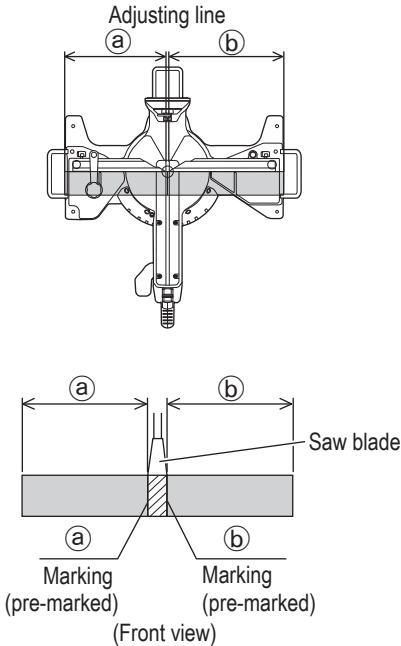

Fig. 33
- (1) As shown in Fig. 33 the width of the saw blade is the width of the cut. Therefore, slide the workpiece to the right (viewed from the operator's position) when length ⑥ is desired, or to the left when length ⑦ is desired.